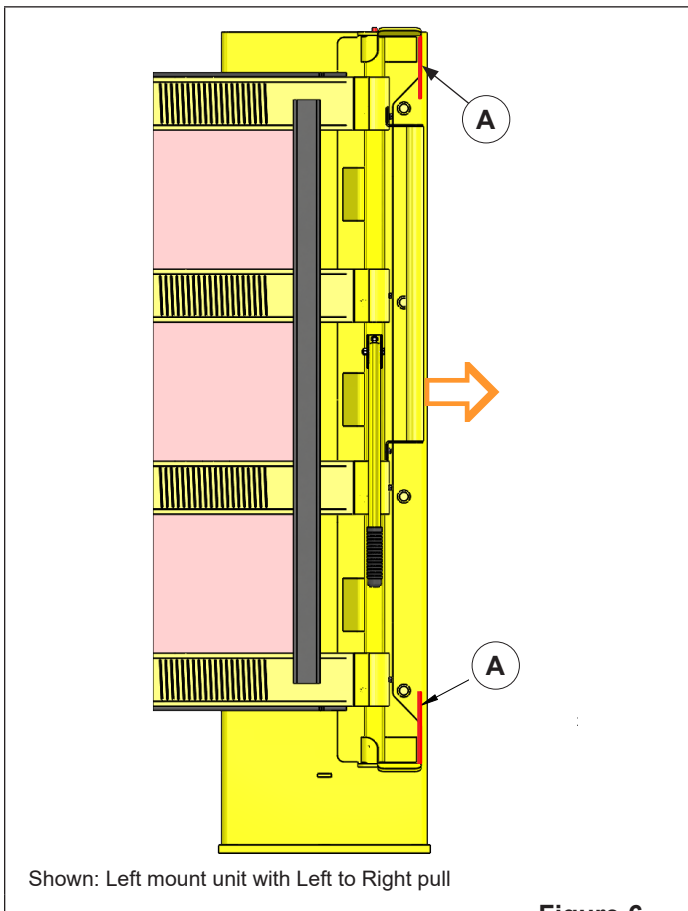

Figure 6
3. Push the slotted latch plate (with the curtain lead bar still engaged) away from the storage warden until the retainer bar in the storage warden is engaged (Figure 6).